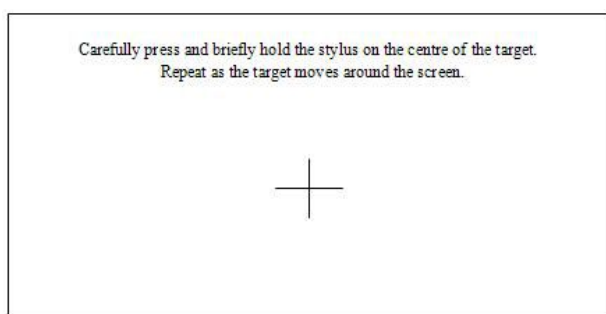

Figure 2-2
①If there is an error touch screen tap, select "Calibration", then enter the interface as shown in Figure 2-2,